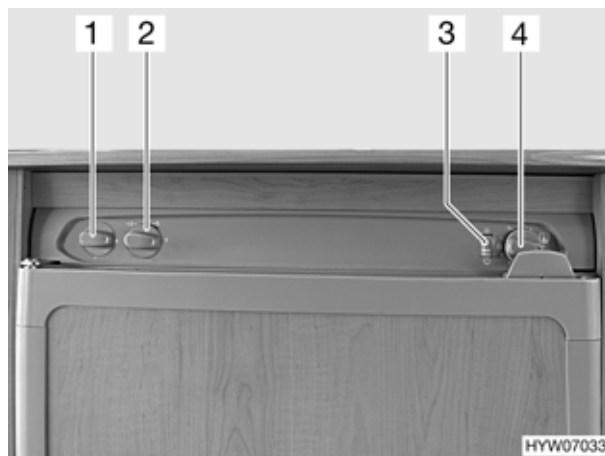

Fig. 131 Operating controls for refrigerator (variant 2)
- Set energy selector switch (Fig. 131,2) to gas .
- Set the control knob (Fig. 131,4) to "Level 5", press and hold in. Gas supply is open. Ignition will take place automatically. A ticking sound can be heard until ignition has been completed successfully.
- Keep the control knob pressed down until the flame indicator (Fig. 131,3) becomes green and then release it. If the flame fades, then the ignition device will repeat the ignition process.
- Use control knob (Fig. 131,4) to adjust refrigerating temperature.
- Set energy selector switch (Fig. 131,2) to "O". The appliance is switched off.
- Set energy selector switch (Fig. 131,2) to 240 V operation
- Use control knob (Fig. 131,1) to adjust refrigerating temperature.
- Set energy selector switch (Fig. 131,2) to 12 V operation